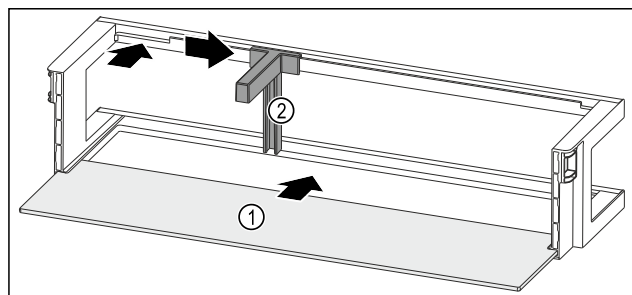

Fig. 264 Door rack with shelf
- Push the shelf Fig. 264 (1) into the side recesses.
- Insert the bottle holder Fig. 264 (2) in the recess.
- Push the bottle holder Fig. 264 (2) to the desired position to the side.